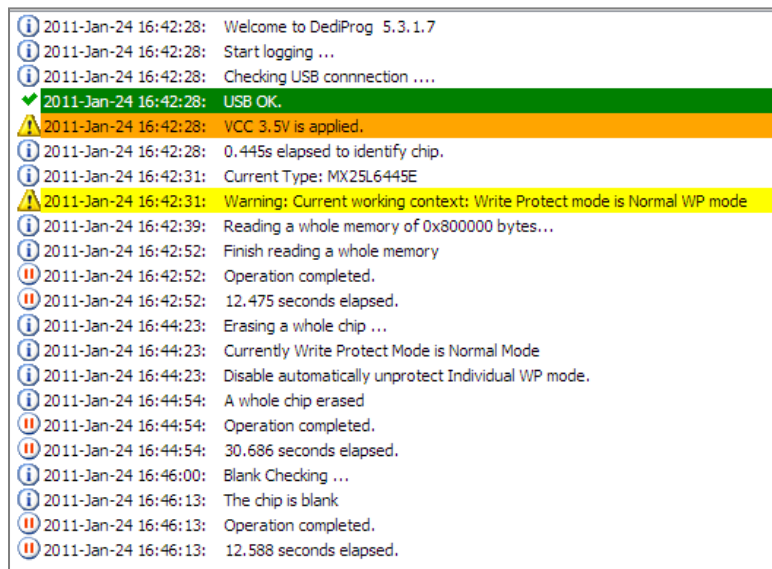

Figure 3-16. The event log should display a message verifying that the flash device is blank.
4. Look at the Dediprog event log. There should be an entry listing **A whole chip erased** (see Figure 3-16).